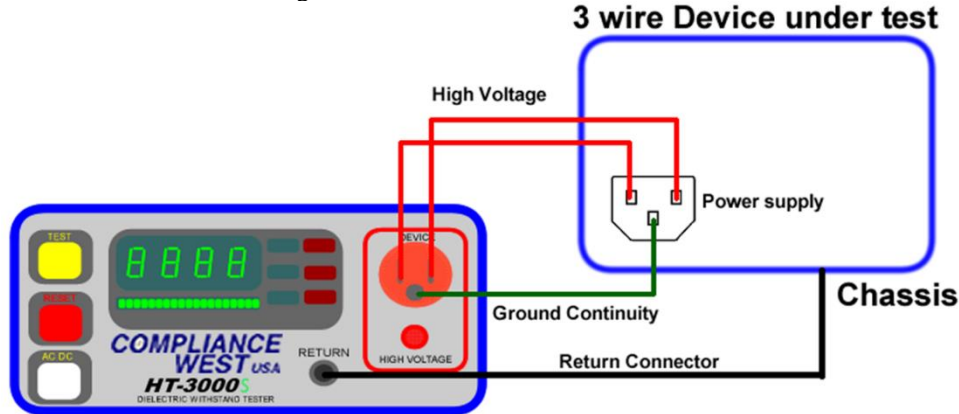

Figure 7. Testing a Three Wire Power Cord Device.
4. Plug the power supply cord of the device being tested into the **Device** receptacle on the front panel of the HT-P V2 unit. See Figure 7 for detailed connections.